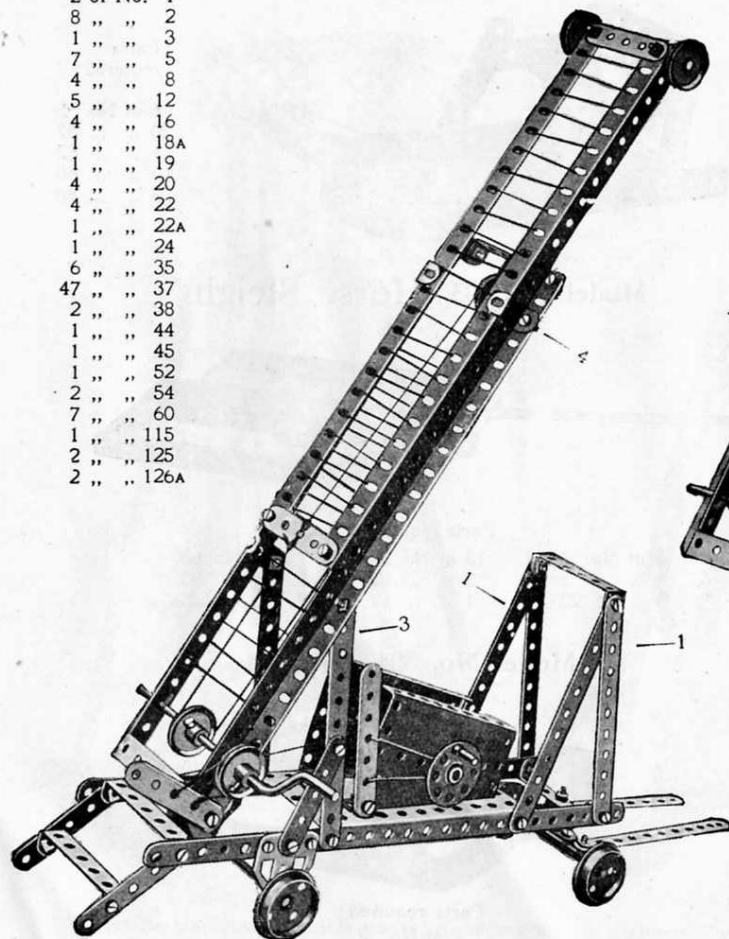

FIG. 257A
The bed of the lower carriage framework is formed by bolting two $12\frac{1}{2}$ " strips to the sides of a large flanged plate, and two sector plates bolted to the flanged plate by their flanges to form the sides, and a bearing for the spindle carrying the operating cord attached to the bottom of the ladder to raise it from a horizontal position, and the strips (1) form a support for the ladder when in this horizontal position. Angle brackets (2), Fig. 257A, form pivots for the lower part of the ladder, and are carried from the supports (3). The upper part of the ladder, Fig. 257, is slidably guided and retained on the lower ladder by reversed brackets (4). The extension of the ladder is effected by the cranked spindle round a pulley on which (and another pulley at the top of the framework) the cord is passed, the ends being secured to the lower part of the slidable ladder.